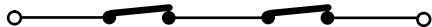

Fig. 4
**N.B. If two or more safety devices have the same function (opening, closing, opening and closing, edge), the contacts must be connected to each other in series (fig. 4).**
To install several safety devices, connect the N.C. contacts in series (fig.4).